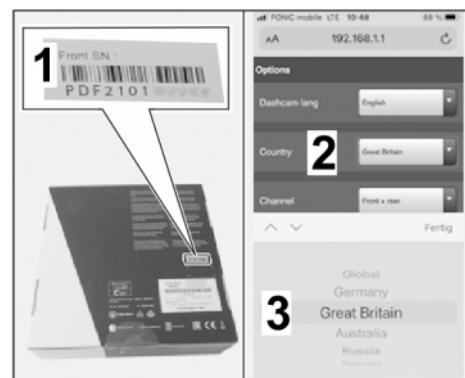

Figure 29
- 5.3.2 Select country (⇒ *Figure 29*).